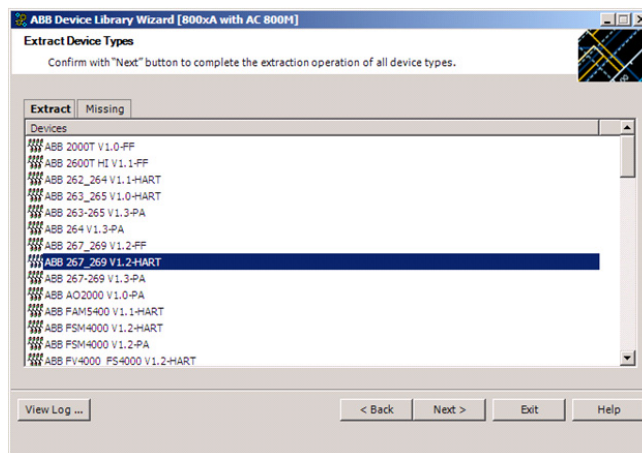

Figure 17. Extract Device Type Files
9. The Device Library Wizard scans the 800xA System for fieldbus device types that are already used and compares the results with the contents of the DVD. Device Types available in the 800xA System and the DVD are shown in the **Extract** tab of the Device Library Wizard (Figure 17).